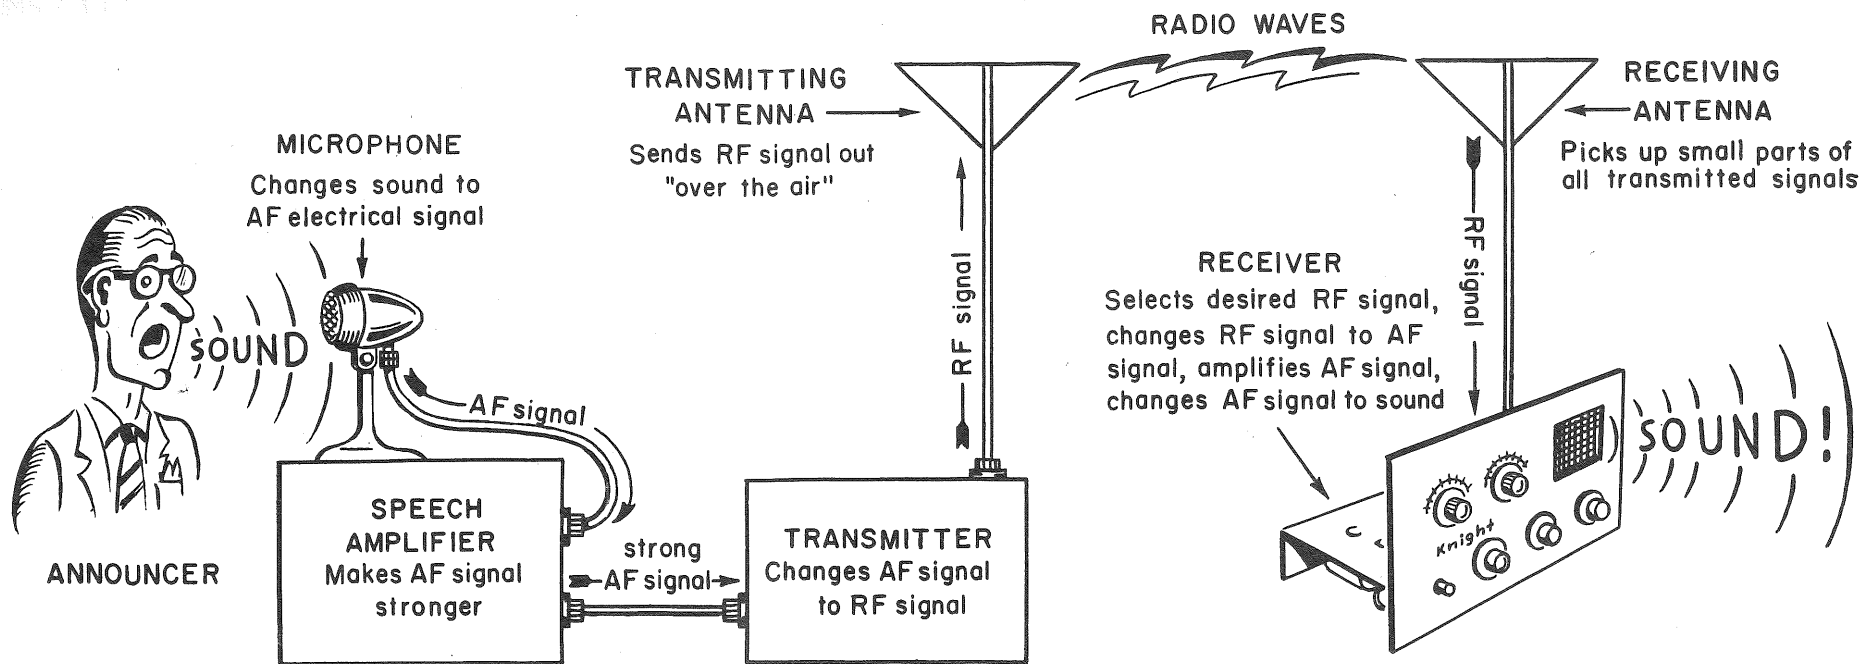

FIGURE 9. HOW RADIO MESSAGES ARE SENT AND RECEIVED
Figure 9 shows a typical broadcasting and receiving system. As the announcer talks, his voice is changed into a weak **audio frequency (AF)** electrical signal by the microphone. The weak AF signal is fed into a **speech amplifier**, where it is made many times stronger. The strong AF